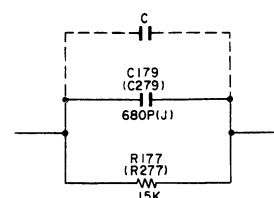

Fig. 6.23
- 2) Feed in 10 kHz and 400 Hz (-20 dB) then record and play it back. Check the difference of the levels between 10 kHz and 400 Hz, and mount an additional capacitor in parallel with the C179 (C279) on the Switch P.C.B. from the dip side of the printed circuit board depending upon the difference of the levels against 400 Hz. See Fig. 6.23.